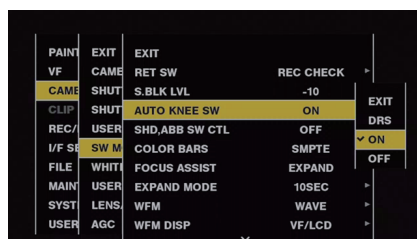

Fig. 2
- Press the jog dial button, the cursor button (▶), or the <SET> button to open lower-level menus. (Fig. 2)